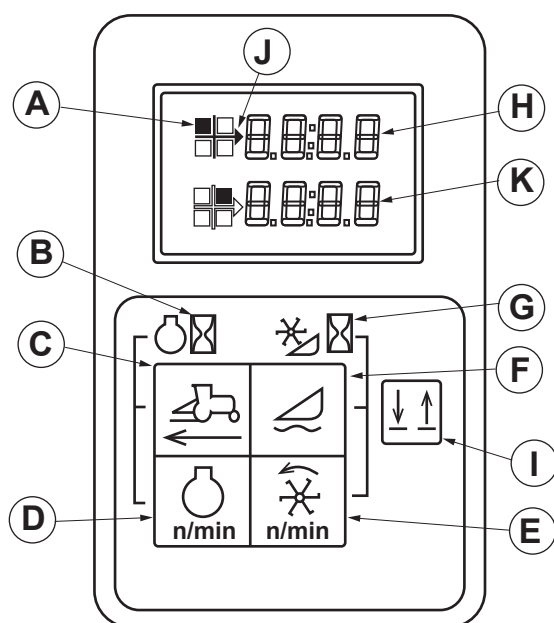

Figure 15. Dual Digital Display Panel
The dual digital display (see Figure 15) will display one function in the upper display (H) and another function in the lower display (K) simultaneously.